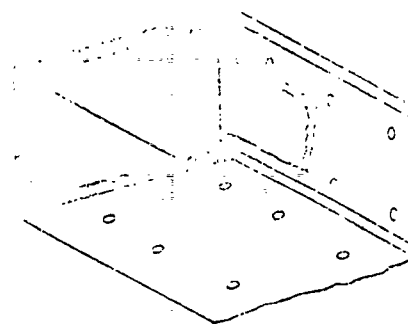

Figure 1
3.1. Insulation. Glass Fiber, Code 112.61, shall be applied to the exterior of the duct surface in a single layer with joints tightly butted together (see Figure 1). Before insulation is installed, all standing seams or cracks that will project through the insulation must be coated with Code 501, Granular Cork Asphalt Mix. Coating shall be applied to a minimum thickness of 3/8 inch and extend 1 inch on either side of angles or seams. Either of the following application methods are acceptable, but the method described in paragraph 3.2 should be used where practical.
be applied to the exterior of the duct surface in a single layer with joints tightly butted together (see Figure 1). Before insulation is installed, all standing seams or cracks that will project through the insulation must be coated with Code 501, Granular Cork Asphalt Mix. Coating shall be applied to a minimum thickness of 3/8 inch and extend 1 inch on either side of angles or seams. Either of the following application methods are acceptable, but the method described in paragraph 3.2 should be used where practical.